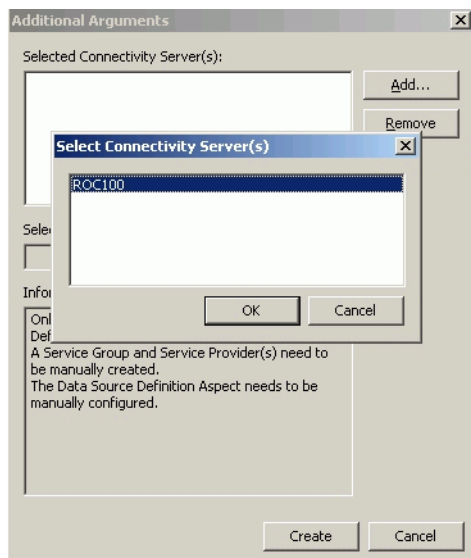

Figure 8. Selecting the Connectivity Server
2. Select the Profile Historian server as the Connectivity Server for the Accuray Object server. To do this (reference Figure 8):